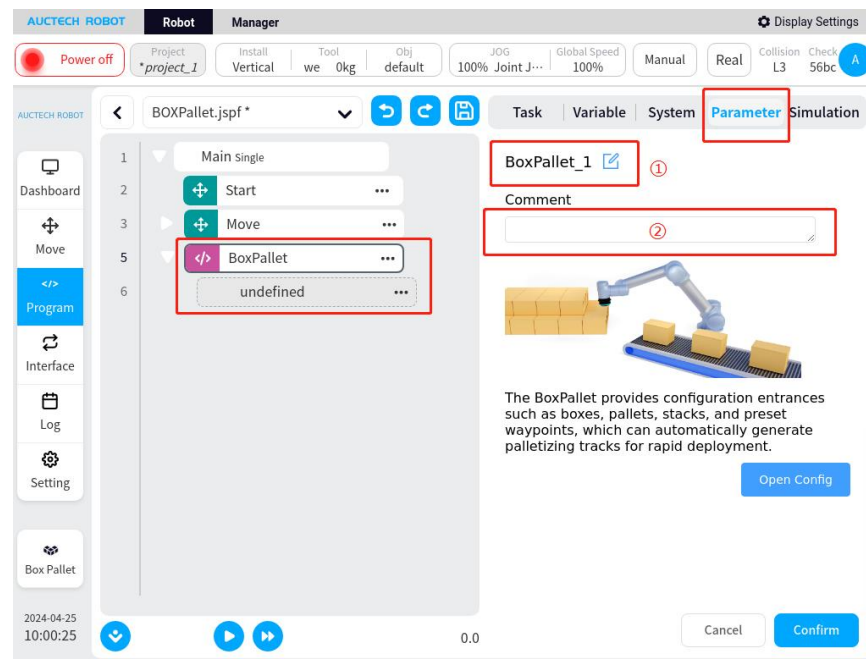

Figure 15
1、 Enter the parameter configuration interface of BoxPallet module, as shown in Figure 15.